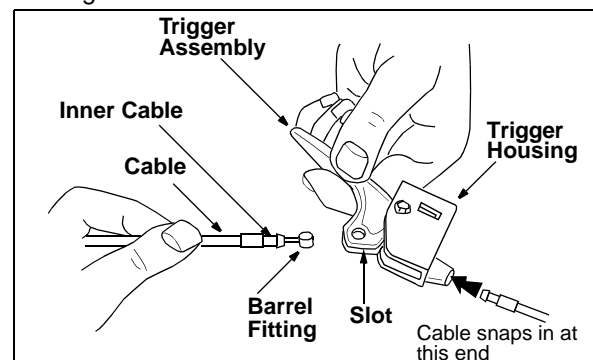

Figure 12
- Place the cable barrel fitting into the hole in the trigger. You can find the triggers and associated hardware in group H of the hardware pack. See Figure 12.
- Pull on the cable and rotate it around the bottom of the trigger, with the inner cable in the slot, until the cable end can be pushed into the trigger housing and snapped tight. See Figure 12.